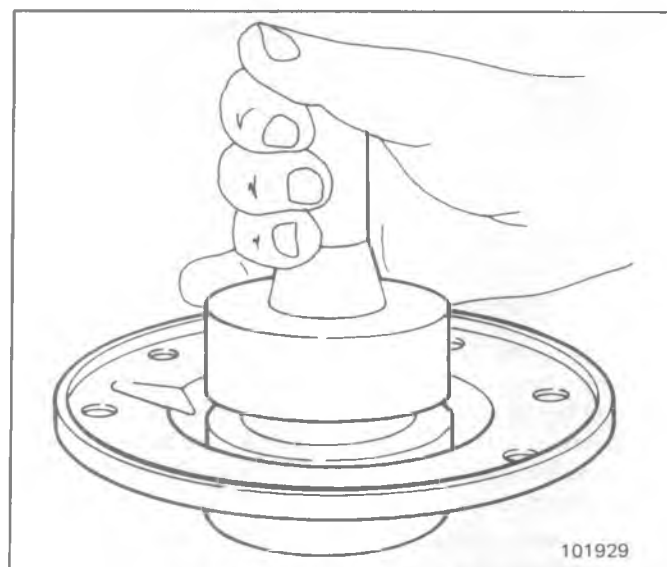

Fig. 4B5-19--Installing Seal
8. While in press under pressure, check bearing preload torque. Wrap soft wire around cage and pull on horizontal line with pound scale (Fig. 4B5-17).